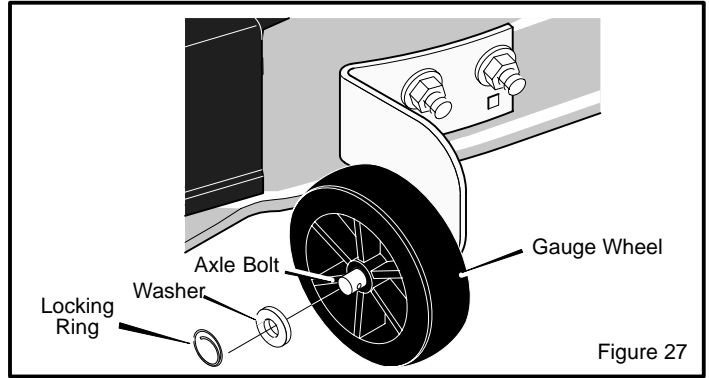

Figure 27
1. Remove the **gauge wheels** (Figure 27).